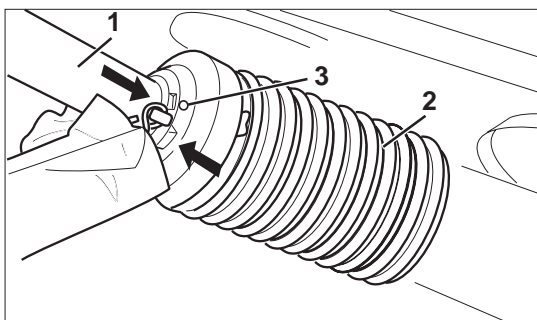

Fig. 5.5
- Push on protection half (Fig. 5.5/1) and twist guard cone (Fig. 5.5/2) into fitting position.
- Screw in lock bolt (Fig. 5.5/3).